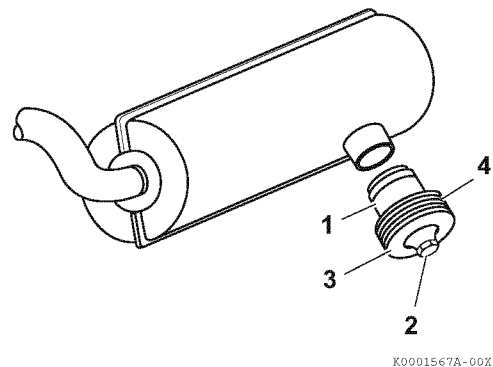

Figure 2
Clean the spark arrestor (1, **Figure 2**) as follows:
1. Remove the locknut (2, **Figure 2**), end cap (3, **Figure 2**) and diffuser discs (4, **Figure 2**) from the spark arrestor.
3. Install the diffuser discs (4, **Figure 2**) and end cap (3, **Figure 2**) on the spark arrestor (1, **Figure 2**) and secure with the locknut (2, **Figure 2**).